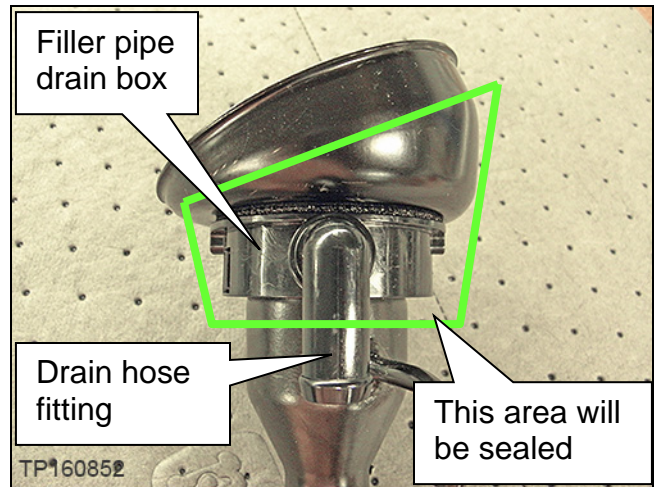

Figure 3
2. Wrap EPT foam (see Parts Information) around the top of the new fuel filler pipe where indicated in Figure 3 as follows:
- Wrap the EPT foam so that its width extends above and below the fuel filler pipe drain box that is shown in Figure 3.